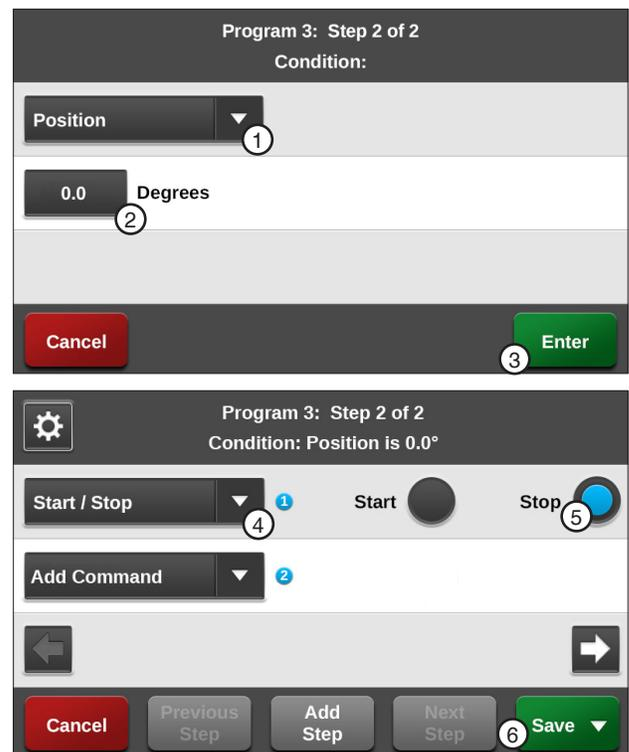

Figure 129-2 1. Position Condition 2. Degrees 3. Enter 4. Start/Stop Command 5. Stop 6. Save
4. Program the position condition for this step. Refer to Figure 129-2.